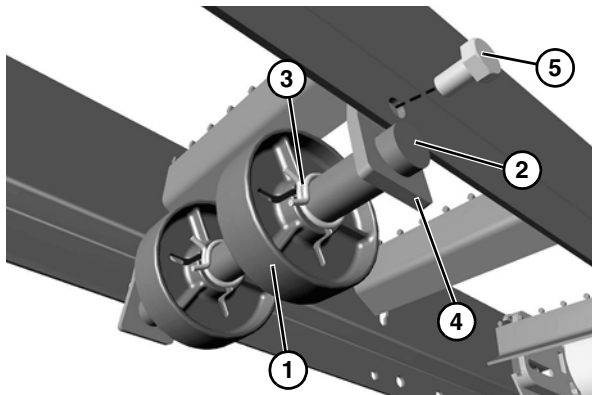

Figure 15
1. Install return disks (**Figure 15, item 1**) onto shaft (**Figure 15, item 2**), and secure with clamps (**Figure 15, item 3**).
2. Install belt return assembly onto frame with return shaft brackets (**Figure 15, item 4**) and cap screws (**Figure 15, item 5**) on the outside of conveyor.